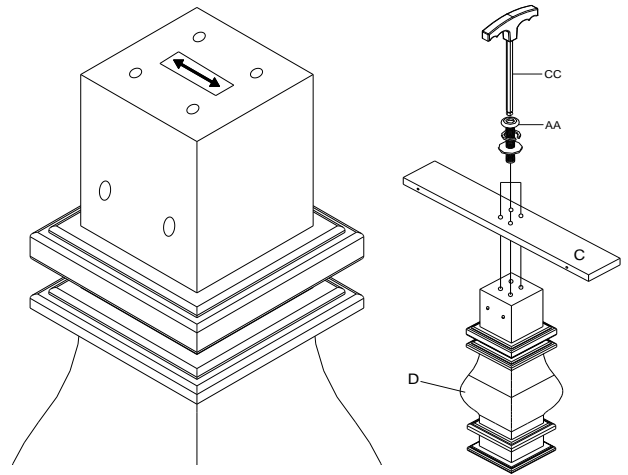

Fig.1
- Locate support Platform (C) on top of Pedestal (D)
*(Reference Fig.1)*
- Insert Short Bolts (AA), into drilled holes, make sure it fitted through holes on Pedestal top and tighten them by Allen Key (CC).
- Do same above steps for another Pedestal (D).